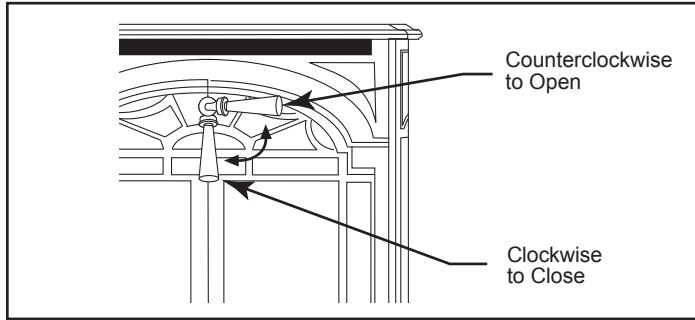
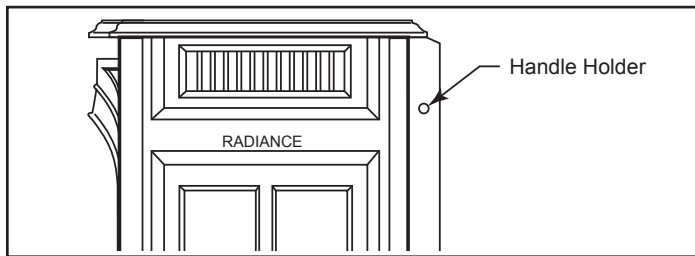

Figure 22 - To open the front doors, turn handle counterclockwise.
Figure 23 - When not in use, store handle in the handle holder.
2. Install the rear left log by placing it on the sheet metal shelf at the back of the firebox. (Figure 22) The log should touch the back wall of the firebox. Slide the log to the left until the left side lines up with the left bracket. (Figure 22) When the log is in place the left front corner of the log should rest on the decorative grate.
3. Install the rear right log by placing it on the sheet metal shelf at the back toward the right. Make sure the right side of the log lines up with the right bracket. (Figure 22) **NOTE:** When the right and left rear logs are in place, they should touch the back of the firebox and each other.
4. Install the right log by engaging hole on the bottom with pin on the right rear log. (Figure 22) Set the bottom of the log on the bracket and bring forward to come in contact with decorative grate on right.
The Radiance is shipped with the operable door front plate. The stove may be operated with the doors either open or closed. To open the front doors, insert the handle provided into the door latch stub and turn it to the right and up. (Figure 22) When not in use, the handle may be stored in the handle holder on the right side of the rear shroud. (Figure 23)